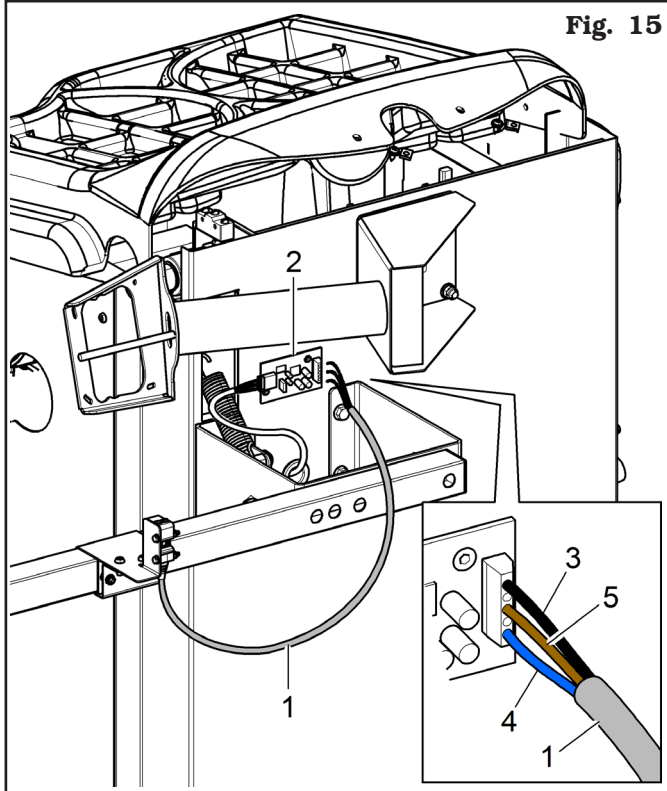
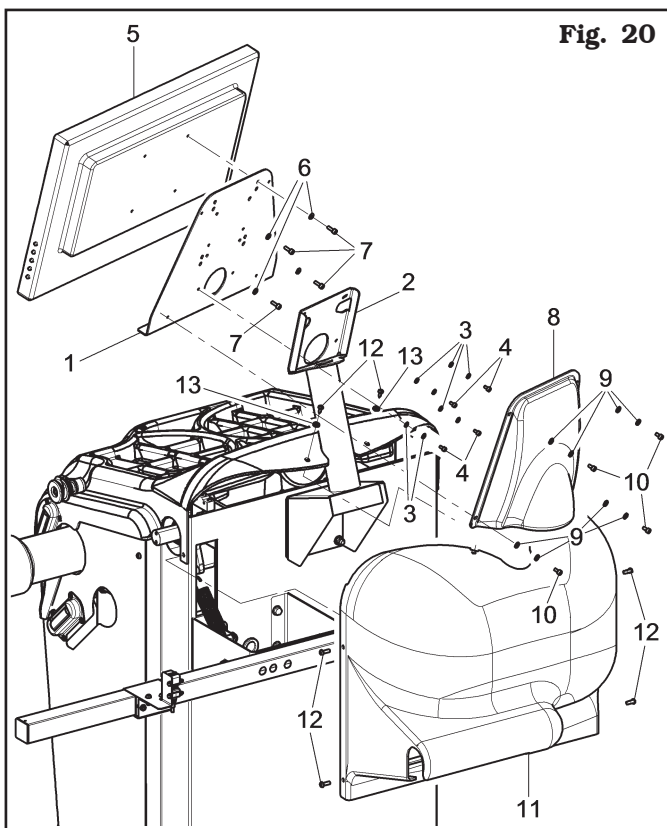

Fig. 15
Fig. 20
3. Connect connector of GAR338 cable (**Fig. 15 ref. 1**) to the electronic card (**Fig. 15 ref. 2**) (# 18363), as shown in **Fig. 15** (black cable **ref. 3**, blue cable **ref. 4** and brown cable **ref. 5**).
3. Fit the monitor support plate (**Fig. 20 ref. 1**) to the monitor support (**Fig. 20 ref. 2**) using the issued washers (**Fig. 20 ref. 3**) and screws (**Fig. 15 ref. 4**).
Fit the monitor (**Fig. 20 ref. 5**) to the plate (**Fig. 20 ref. 1**) with the washers (**Fig. 20 ref. 6**) and the screws (**Fig. 20 ref. 7**) supplied.
Mount the guard (**Fig. 20 ref. 8**) to the monitor support plate (**Fig. 20 ref. 1**) with the washers (**Fig. 20 ref. 9**) and the screws (**Fig. 20 ref. 10**) supplied.
4. Mount machine rear covering (**Fig. 20 ref. 11**) using the screws (**Fig. 20 ref. 12**) and washers (**Fig. 20 ref. 13**), supplied.